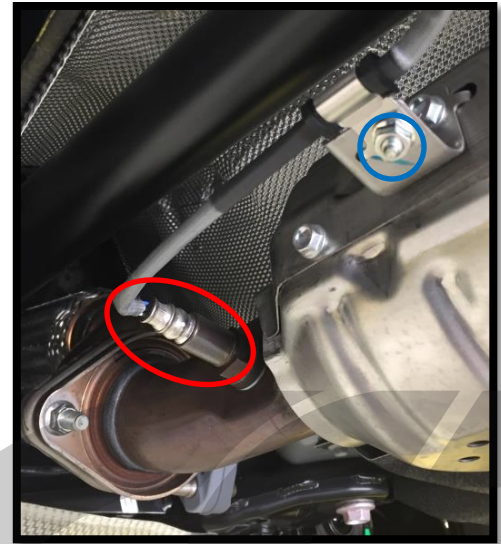

Figure 2a
- a) Using a O2 Sensor Socket or 22mm wrench, remove the O2 Sensor from the OEM midpipe. Circled in red in Figure 2a.
- b) Using a 10mm socket remove the nut and bracket holding the O2 sensor wiring to the midpipe (nut circled in blue in Figure 2a). Tuck the sensor and wiring up out of the way so it does not get damaged during the remaining install.